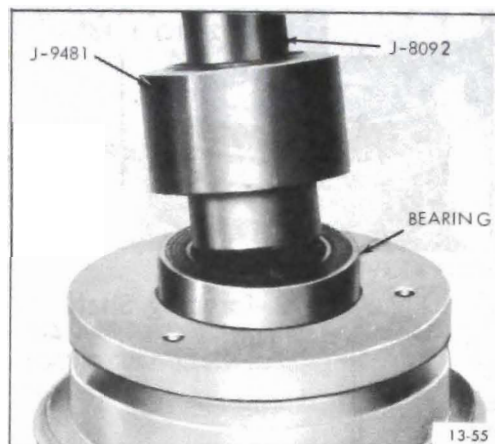

Figure 13-81 Installing Bearing into Pulley Assembly
2. Drive new bearing into pulley assembly (see Figure 13-81) with installer (J-9481) and handle (J-8092).